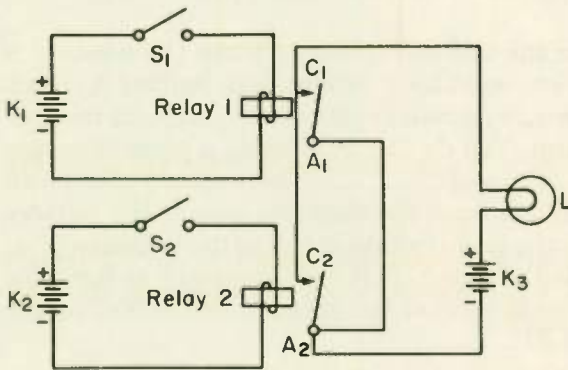

Fig. 24 An OR logic circuit.
15 OR CIRCUIT WITH RELAYS . . . Two relays connected to form an OR circuit are shown in Fig. 24. If either one of the two relays is energized, or if both are energized, light *L* will come on. Computer engineers write it like this:
- In Fig. 24 if switch S_1 is closed and S_2 is open, will light L burn?
- Assuming S_1 closed and S_2 open, draw a heavy line on Fig. 24 to show the path of the current from the negative terminal of battery K_3 through the bulb, and back to the positive terminal of K_3 .
- The light in Fig. 24 comes on as it should when switch S_1 is closed, but it will not come on when S_2 is closed, S_1 being open. Which of the following may be the trouble? (More than one may be.)